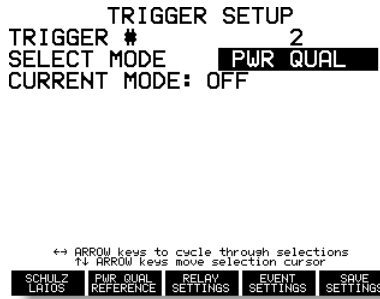

Figure 7.6: Power Quality Trigger Selection
1. From any screen, press the SETUP key, then select 7- Trigger Setup from the number keypad. You should see a screen similar to that in Figure 7.6, depending on whether the trigger is already configured, or OFF. Using the left/right cursor keys, choose a Trigger number.
Press **SETUP > 7 – Trigger Setup > Pwr Qual Reference** soft key as seen in Figure 7.6. Install the values for any required reference. Press **BACK** to return to the Trigger menu. *Remember to press the SAVE SETTINGS soft key to retain any changes to these settings.*